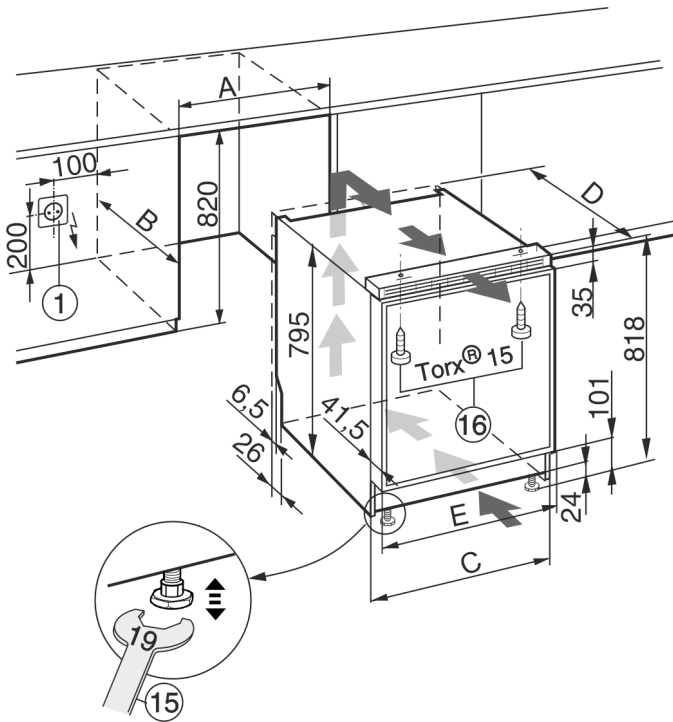

Fig. 12
- ☐ The socket outlet Fig. 12 (1) must be adjacent to the appliance and readily accessible.
- ▶ Align the appliance by applying the accompanying opened spanner Fig. 12 (15) to the height-adjustable feet.
- ▶ Fasten the top of the appliance to the worktop or to the furniture unit using the accompanying screws Fig. 12 (16).